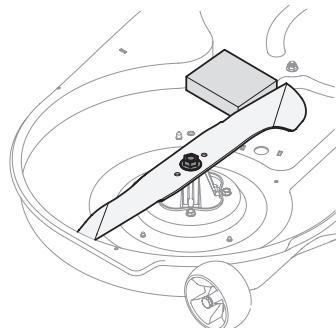

Figure 35
2. Place a block of wood between the center deck housing baffle and the cutting blade to act as a stabilizer. See Figure 35.
3. Place a block of wood between the deck housing baffle and the cutting blade to act as a stabilizer. See Figure 35.